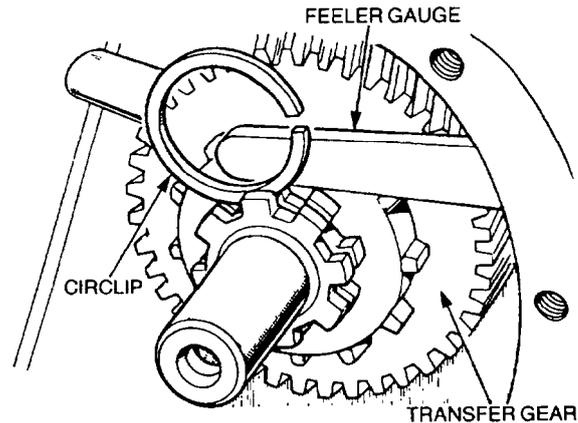

Figure 172 Main Shaft Pre-load Adjustment
- aa. Fit the transfer gear to the mainshaft and temporarily retain it with a new circlip (Figure 172).
- bb.** Push the mainshaft to the rear of the transmission and measure the clearance between the circlip and transfer gear (Figure 172). The maximum clearance between the circlip and transfer gear is 0.050 mm (0.002 in). To obtain the correct pre-load on the mainshaft, insert a shim of the appropriate thickness. The available shim range is 1.50 mm (0.060 in) and 1.70 to 2.00 mm (0.067 to 0.079 in) in increments of 0.05 mm (0.002 in).